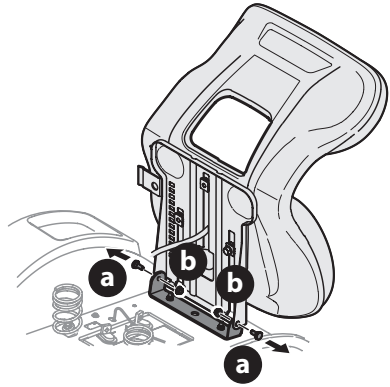

Fig. 2
2. Remove the two shoulder bolts (a) and flange lock nuts (b) in the seat pan (Fig. 2).